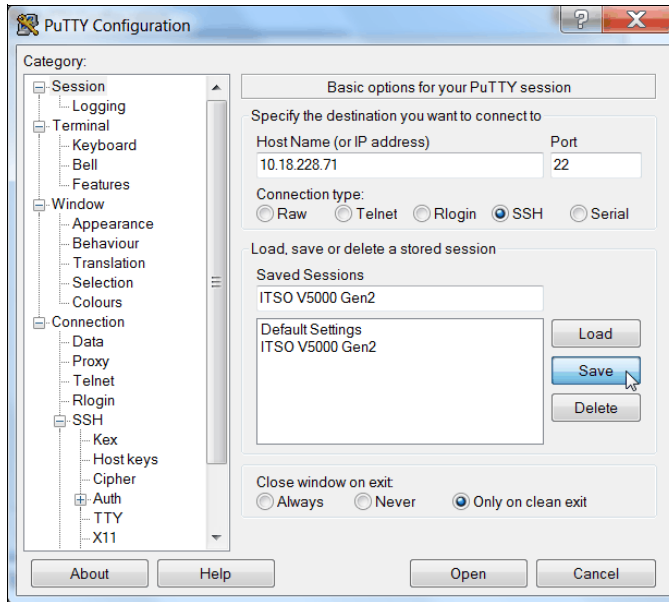

Figure A-18 Save the new session
7. Click **Save** to save the new session (see Figure A-18).